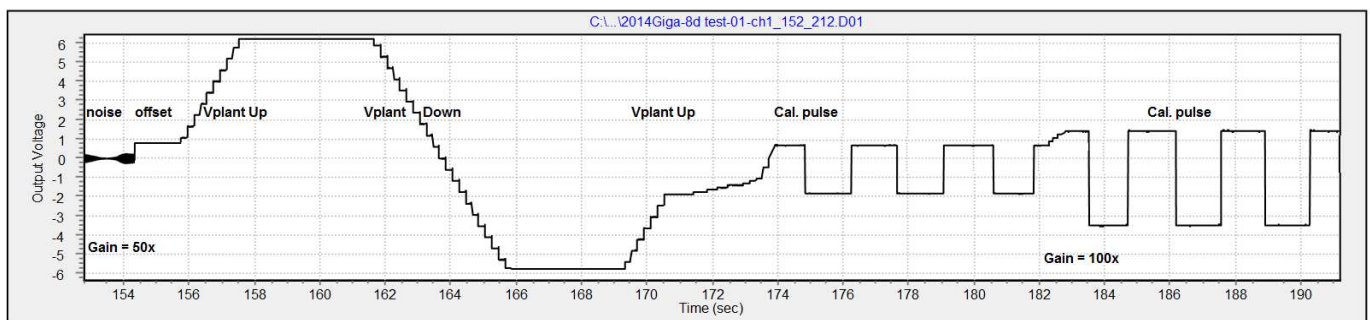

Fig. 7 Stylet⁺ panel showing (L to R): Vplant increase and decrease, Cal.pulse 50x, and 100x
10. Often connecting the test cable may show a voltage offset up to 2V, initially (Fig. 7, beginning); differing per channel.
11. In control panel 2 activate the Vplant adjustment (see section 4.1) then (panel 3) increase Vplant with the Up button, then decrease Vplant with Down subsequently, and finally return Vplant to about 1V (Fig. 7).
13. Push Enter several times to switch the pulse ON and OFF and observe the pulse response (Fig. 7). The pulse values should become visible in Vplant (decrease by about 0.05V), Vout (step down by about 2.5V) on the control panel.